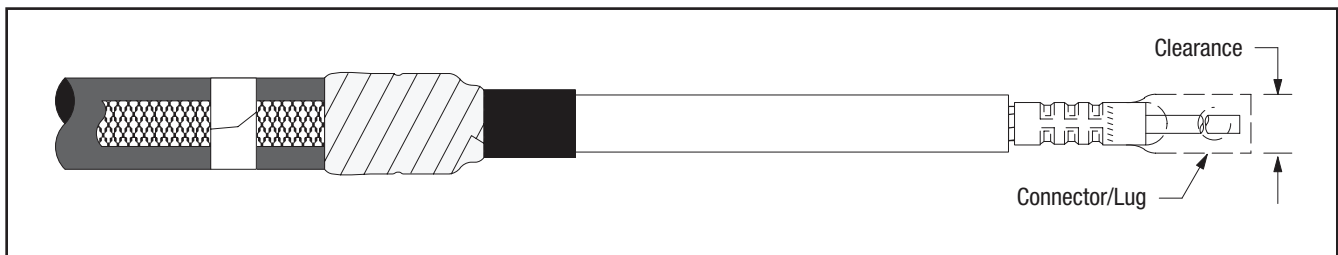

Figure 13
- 9.1 Check to insure 3M™ Cold Shrink QT-III Silicone Rubber Termination assembly fits over the selected lug or connector. If lug or connector (*Figure 13*) will not fit through the termination core, clean the insulation (*per Step 10.0*) and slide termination on cable before installing lug or connector. **DO NOT REMOVE CORE AT THIS TIME.**